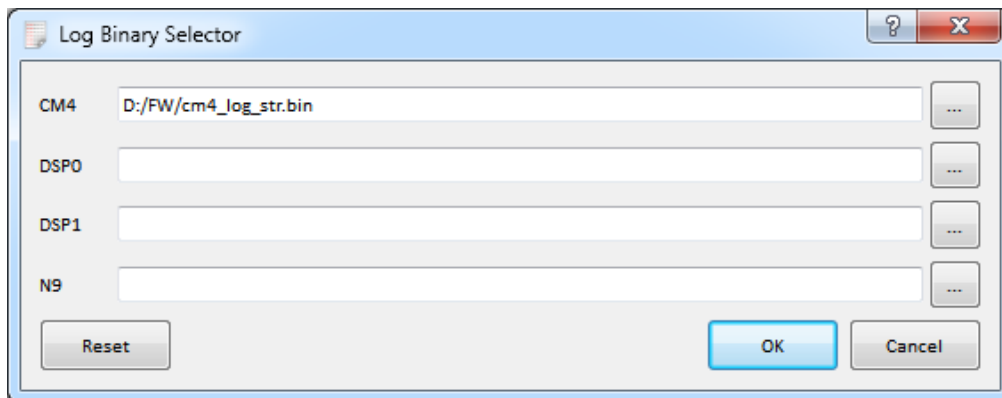

Figure 17. Select Log Binary
- 3) Select log binary file as shown in Figure 17